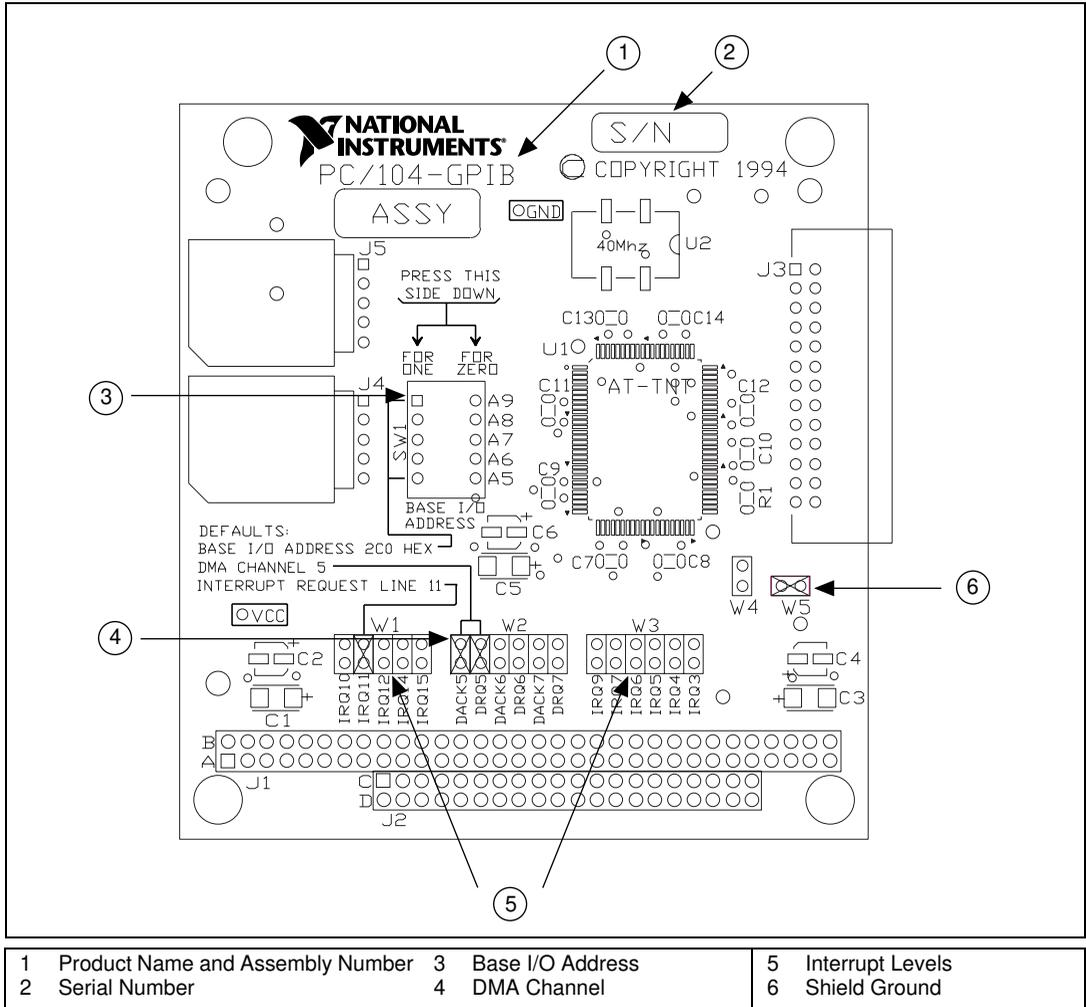

Figure 2-2. PC/104-GPIB Parts Locator Diagram
Figure 2-2 shows the location of the configuration jumpers and switches on the PC/104-GPIB.
2. Locate the base I/O address switch at SW1 on your PC/104-GPIB. Refer to the parts locator diagram, Figure 2-2.
2. Find the jumpers at W1 and W3 that set the interrupt request line. The jumpers are located on the lower edge of your PC/104-GPIB. Refer to the parts locator diagram, Figure 2-2.
2. Locate the jumpers at W2 that select the DMA channel. Refer to the parts locator diagram, Figure 2-2.
1. Refer to Figure 2-2 to locate the shield ground jumper W5 on the PC/104-GPIB module.